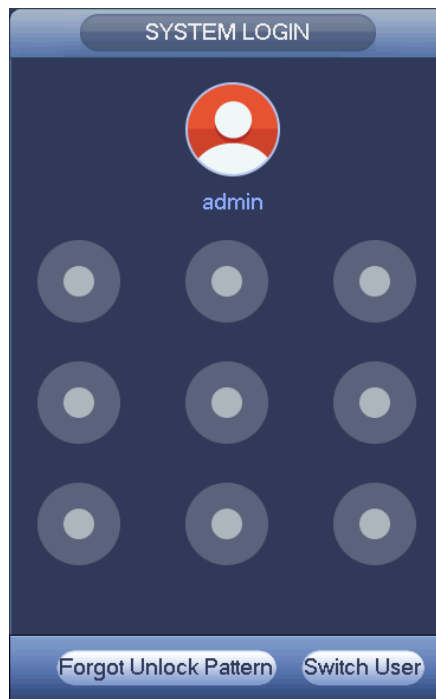
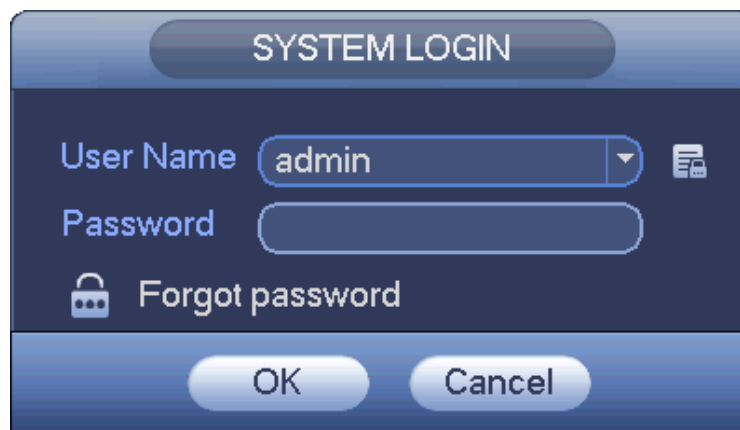

Figure 4-4
Figure 4-5
Step 1 Go to the device login interface. See Figure 4-4 or Figure 4-5. .
- If you have set unlock pattern, device displays unlock pattern login interface. See Figure 4-4. Click “Forgot unlock pattern”, device goes to Figure 4-5.
- If you have not set unlock pattern, device displays password interface. See Figure 4-5.